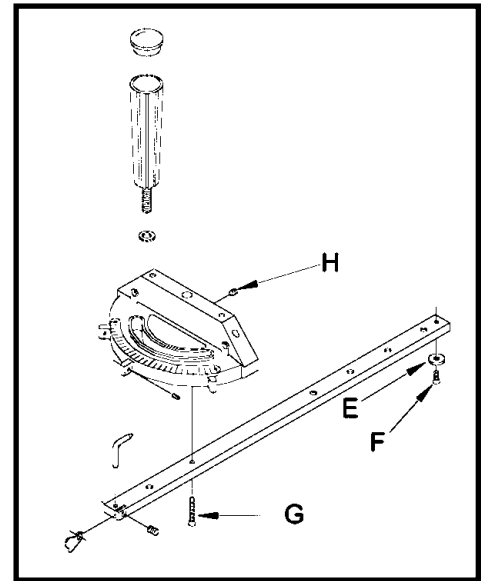

Fig. 123
The head of the miter gage pivots on a special tapered screw (G) that fastens the head to the miter gage bar. If the miter gage head does not pivot freely, or pivots too freely, it can be adjusted by loosening set screw (H) Fig. 123, and turning the screw (G) in or out. Be certain to tighten screw (H) after adjustment is made.